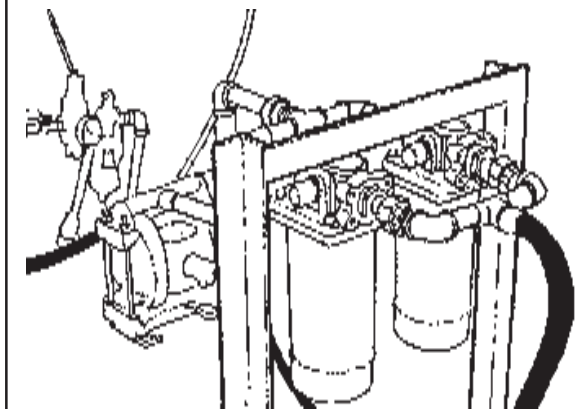

FIGURE 2
3. **Avoid Hydraulic Contamination** by filtering the Hydraulic Oil while filling the Hydraulic Tank. Filter buggies or carts are commercially available for Hydraulic system cleanup and Oil transfer. These consist of high capacity filter, a Circulating Pump, a Drive Motor and hoses for connecting to the units hydraulic system. When adding Oil always use Clean new Oil from a sealed container, If you suspect the Oil of being contaminated don't use it. (See Figure 2 & 3). It is best to always use a filter system when adding even new oil.